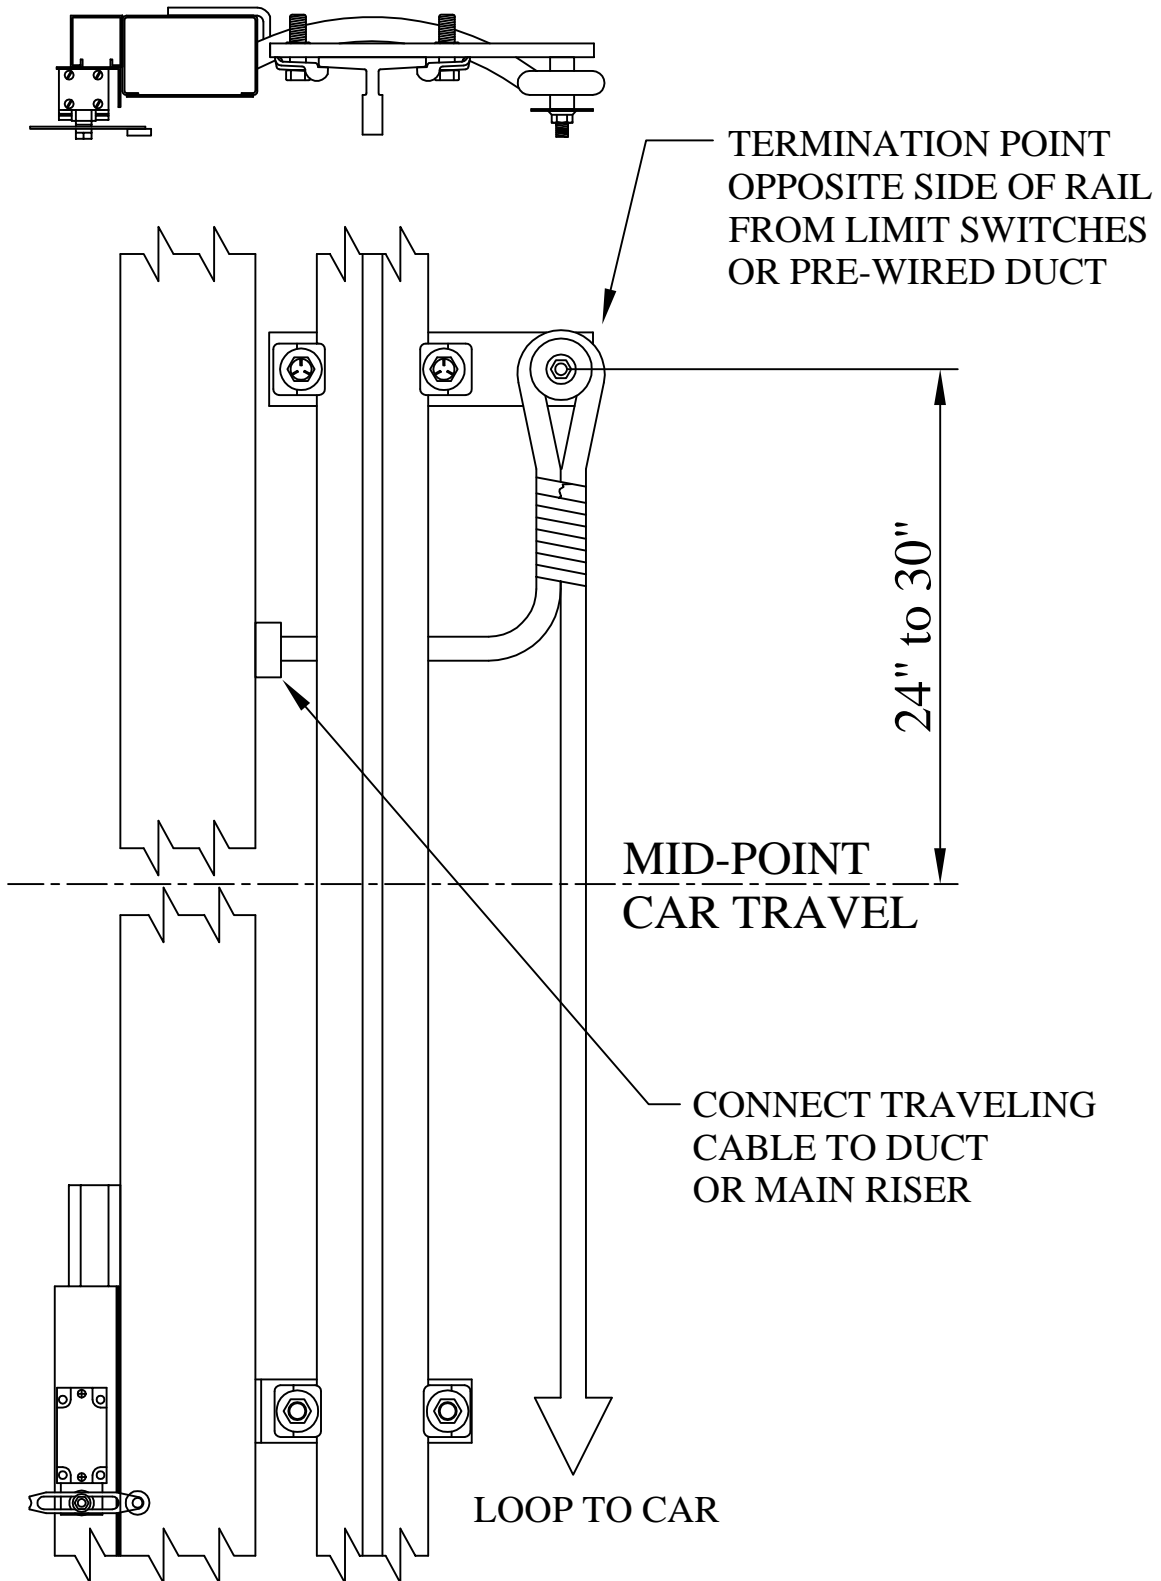

FIG 11-1
- 11c.** Tie traveling cable to mounting post on hanger bracket. Allow enough cable to reach main riser or pre-wire duct before tying off. **See Fig 11-1**